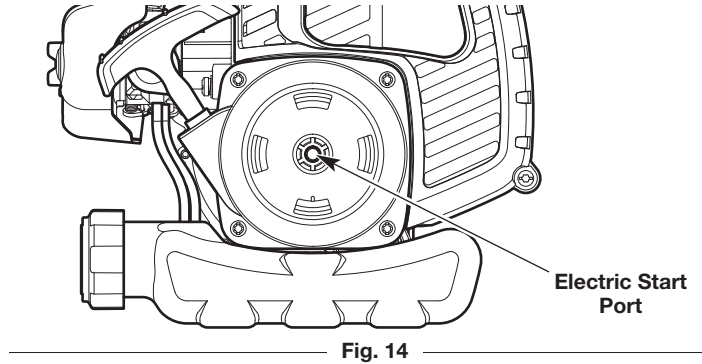

Fig. 14
4. Insert the electric start accessory into the electric start port (Fig. 14).